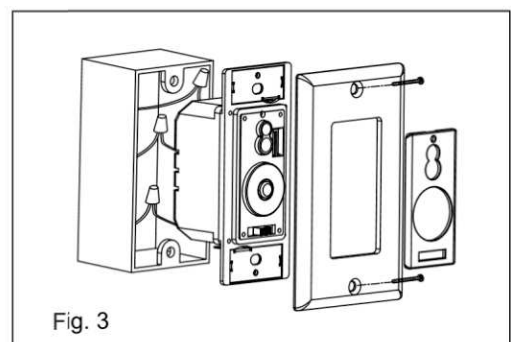

Fig. 3
Step 3. Carefully tuck the wire connections inside the outlet box. Use the screws provided to secure the wall transmitter and wall plate to the outlet box. (Fig. 3)